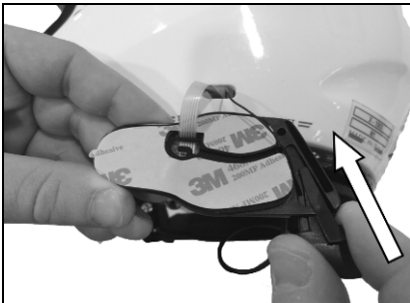

Fig. 30
- Insert the antenna into the groove on the plastic support of the keypad (Fig. 30).